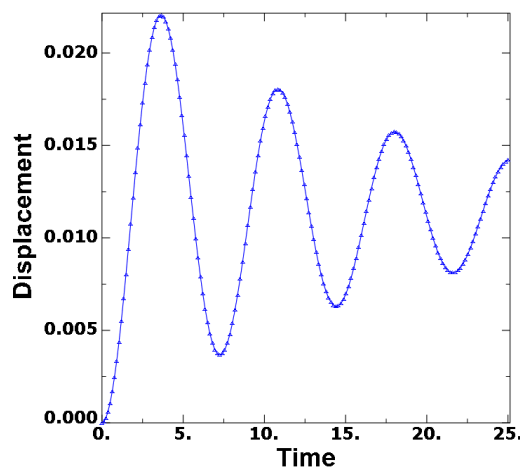

Figure W1-11 Cylinder's displacement for Case 3
2. In the **History Output** dialog box, select **Spatial displacement: U1 PI: rootAssembly Node 1 in NSET REFPOINT** and click **Plot**. This creates a history plot of the cylinder's displacement (as shown in Figure W1-11).